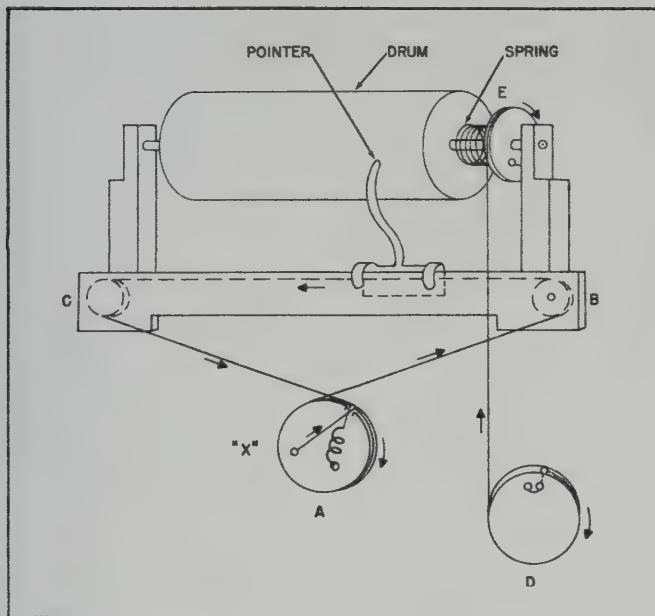

Figure 5-6. 51J-4 Dial Cord Arrangement
figure 5-6. Remove the front panel according to directions in paragraph 5.6.2. (a). If the cord is to be replaced, use 36-5/8 inches of Collins number 432 1009 00 nylon-covered cord.
(b) Tie a loop in the cord. Loop the cord over the tab at point X in figure 5-6.
- (b) Turn pulley E, figure 5-6, about one-half turn and hold tension of spring.